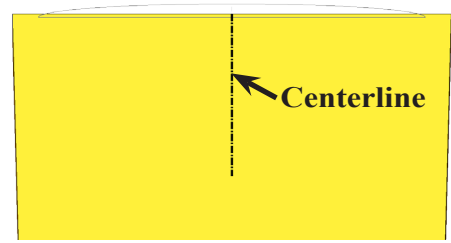

Fig. 33
Step 5. Click **Centerline**  (S) in the **Line flyout**  on the Sketch toolbar.
Step 6. Starting from midpoint of the rear edge, draw a vertical centerline down into the body, **Fig. 33**.